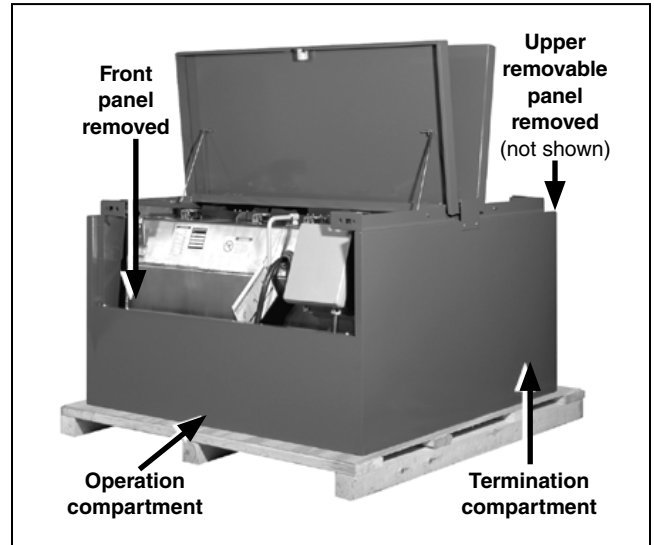

Figure 9. Remove the front panel and upper front panel. (Manual model shown for illustration purposes.)
STEP 4. Remove the removable panel from the operation compartment and the upper removable panel from the termination compartment by loosening the fasteners securing the panels in place and lifting the panels upward. Set the panels aside in a safe, clean place. See Figure 9.